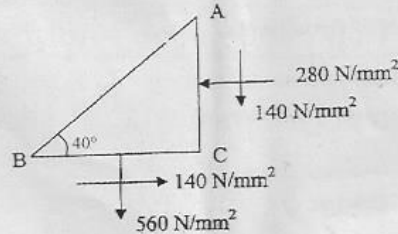

Fig. 14 (a)
14. (a) For the state of stress shown in Fig. 14 (a) Find the principal plane, principle stress and maximum shear stress.